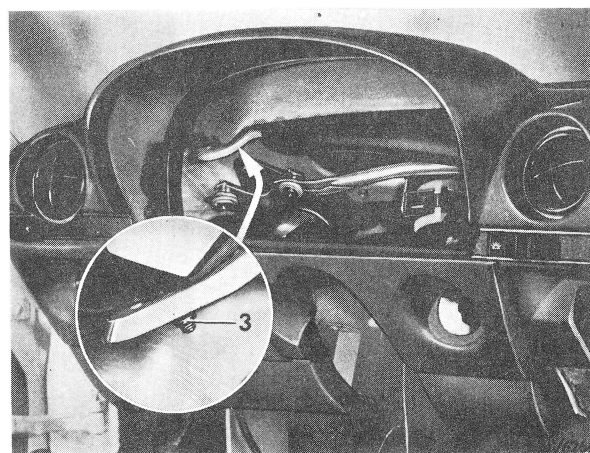

Fig. 2
- 15 Reach through cutout for instrument cluster and unscrew nut (3) (Fig. 2).
27 Insert screws (3 and 5) (Fig. 2 and 3) into pertinent bracket.